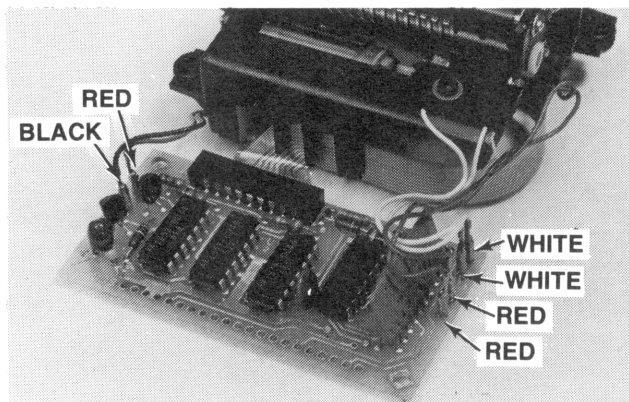
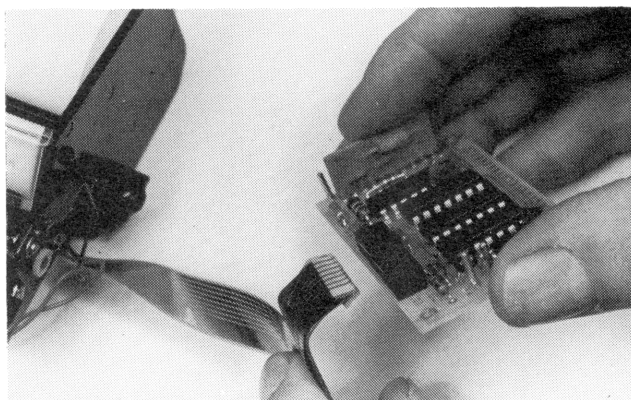
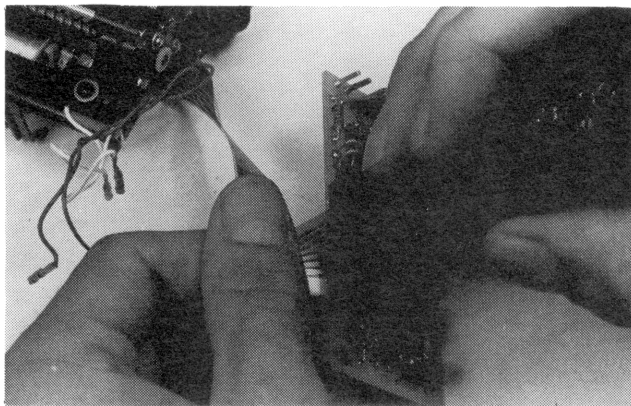
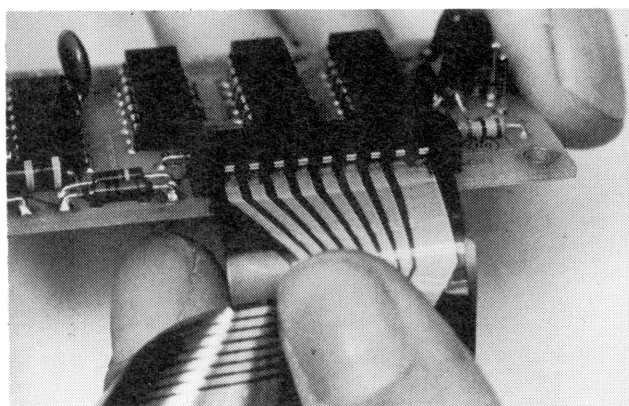

Figure 4-10. Printer PCA Lead Location
Figure 4-12. Print-Head Cable Insertion
Figure 4-11. Print-Head Cable Removal
Figure 4-13. Print-Head Cable Contacts
- (1) Remove paper from the printer and press PRINT x. The display should show "Error," and the printer should not attempt to print. If the out-of-paper switch passes this test, proceed to step b; otherwise, continue troubleshooting the problem at step (2).
- (2) If the out-of-paper switch does not inhibit printing as described above, disconnect the two red leads from the printer PCA near the "0" (see figure 4-11) and insert a continuity tester between them. If the tester does not light with paper out of the printer, clean or- if necessary- replace the out-of-paper switch after disassembling the printer using steps b and c and figure 6-2.
- (3) If step (2) shows the out-of-paper switch to be functioning properly, disconnect the red and black leads to the paper advance switch from the logic PCA (see step 6 of the HP-97 assembly removal and replacement procedures, paragraph 3-28) and insert a continuity tester between them. If the tester does not light (when the paper advance switch is not pressed), replace the switch by following the procedures given in step 12 of the procedures referenced above, paragraph 3-28.
- (4) If steps (2) and (3) show the out-of-paper switch and the paper advance switch to be functioning properly, replace ROM 0 on the logic PCA.
b. Disconnect the dc motor leads (one red and one black), out-of-paper switch leads (two red), and reed switch leads (two white) from the printer PCA. (See figure 4-10.)
c. Disconnect the head cable from the printer PCA by inserting the small end of the connector tool into the head connector, positioned between the connector pins and the cable, and pulling out the cable. (See figure 4-11.) To reinsert the cable, place the connector tool in the fold of the cable and carefully insert them together into the connector with the fold facing the circuit side of the board (see figure 4-12). Ensure that the cable contacts are properly aligned with the connector contacts as shown in figure 4-13. Remove the connector tool.